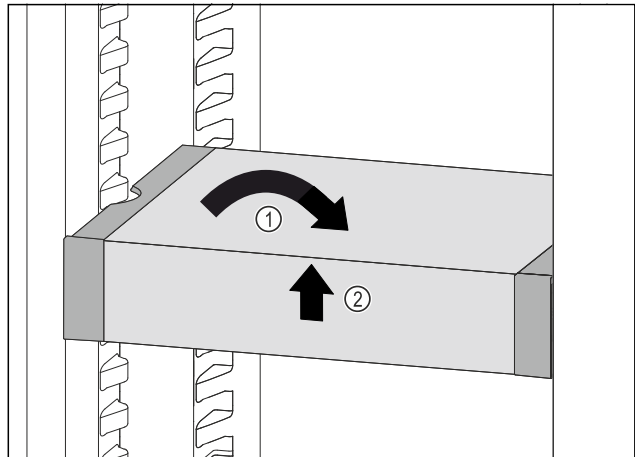

Fig. 124
- ▶ Set VarioSafe straight. Fig. 124 (1)
- ▶ Lift VarioSafe at the front. Fig. 124 (2)